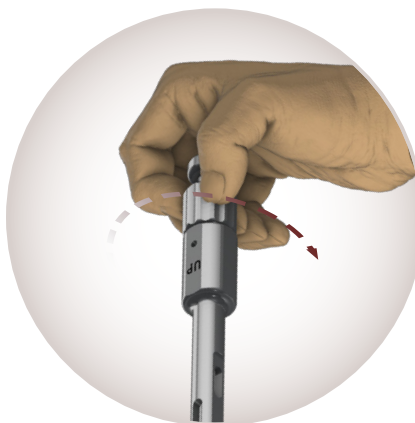

Figure 31.
Loosen the introducer tip from the implant by rotating the proximal knob of the Introducer three (3) counterclockwise revolutions (**Figure 31**).